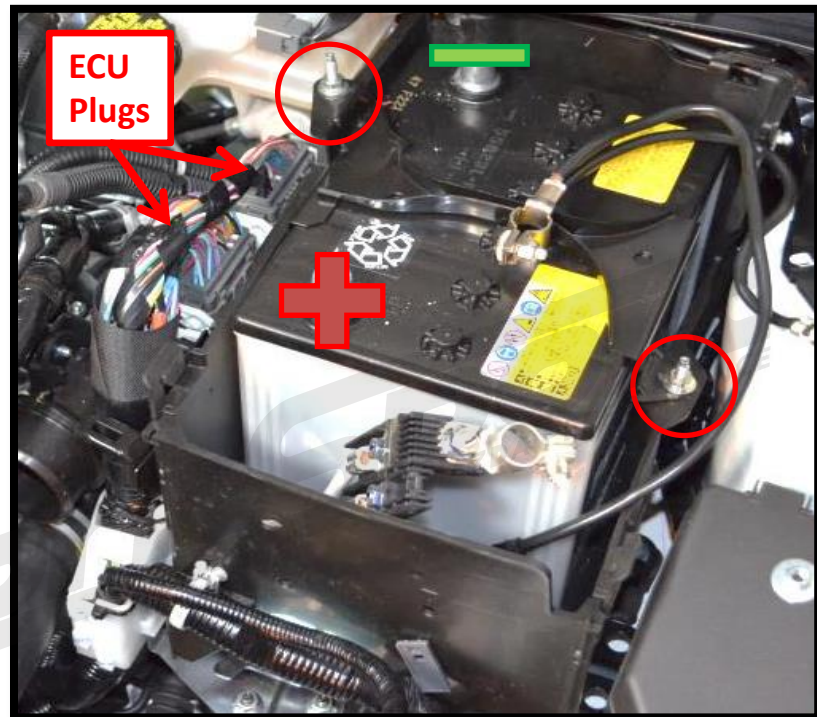
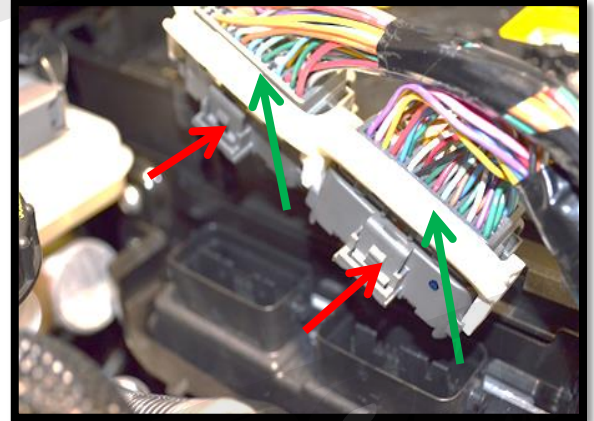

Figure 2b
Figure 2d
b) **Disconnect the battery.** Disconnect the battery terminals with a 10mm end wrench. Refer to Figure 2b for negative (-) and positive (+). Disconnect the negative terminal of the battery first, then the positive terminal (Figure 2b).
c) **Remove the two 10mm nuts for the battery tie down bracket** (shown with red circles in Figure 2b).
- f) **Disconnect the ECU plugs** by pushing on the tabs (red arrows in Figure 2d) and pulling the white lock upward simultaneously (green arrows in Figure 2d). Refer to Figure 2b for location of ECU plugs and Figure 2d for close ups.
- i) Install the battery box back into place**, with three 10mm bolts (shown in Figure 2d). Feed the battery terminal lines through the cutouts in the box.
- l) Install the front cover onto the battery box and snap the wiring harness clips into place** (shown in Figure 2b).